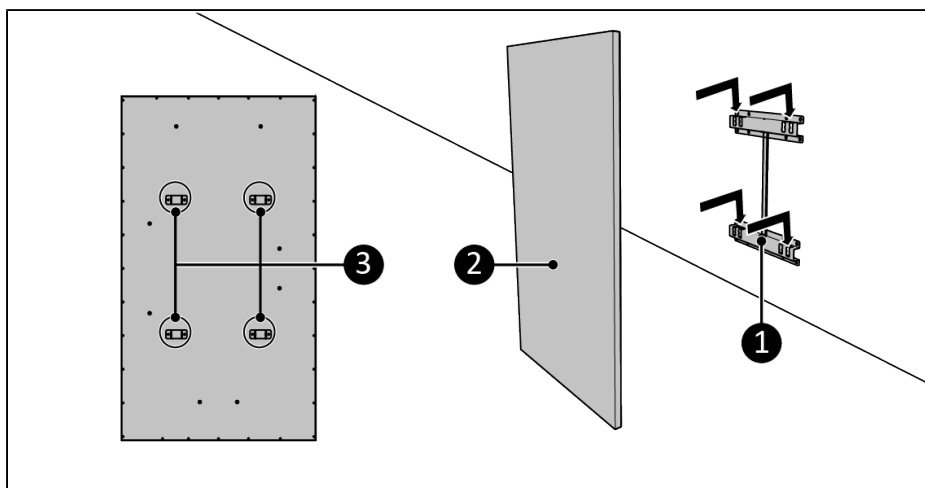

Figure 31.
5. Place the device brackets (Figure 31, pos. 3) over the wall bracket (Figure 31, pos. 1).
6. Slide the device (Figure 31, pos. 2) into the openings of the wall bracket (Figure 31, pos. 1).